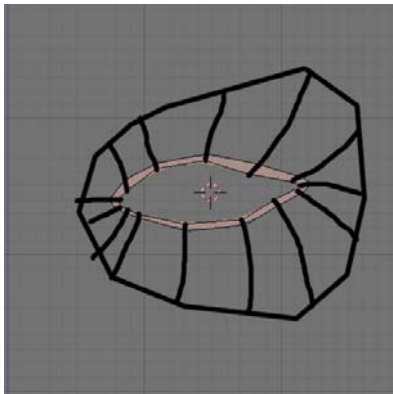

Fig2. Extruding the outer edges.
**Step2** This will serve as a basis for modeling the eyes. Select one edge from the outer rim while pressing [Alt+Shift+D] and extrude the selection, scale it and move the vertices until you have a shape like in fig2.